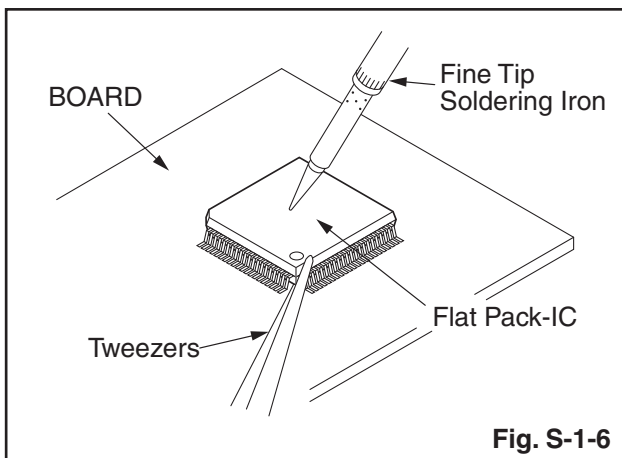

Fig. S-1-6
3. Bottom of the flat pack-IC is fixed with glue to the BOARD; when removing entire flat pack-IC, first apply soldering iron to center of the flat pack-IC and heat up. Then remove (glue will be melted). (Fig. S-1-6)
4. Release the flat pack-IC from the BOARD using tweezers. (Fig. S-1-6)
4. Bottom of the flat pack-IC is fixed with glue to the BOARD; when removing entire flat pack-IC, first apply soldering iron to center of the flat pack-IC and heat up. Then remove (glue will be melted). (Fig. S-1-6)
5. Release the flat pack-IC from the BOARD using tweezers. (Fig. S-1-6)